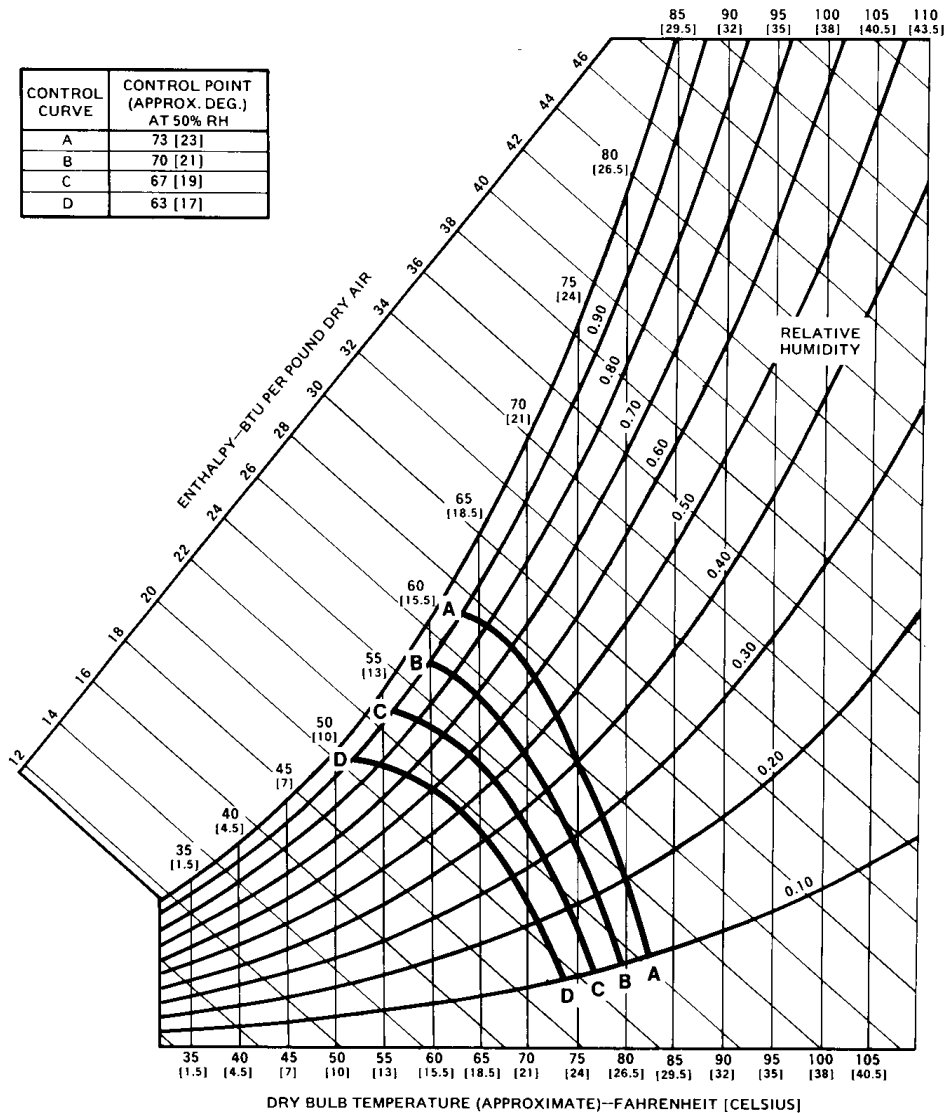

FIG. 7 - ENTHALPY SET POINT ADJUSTMENT
9. The enthalpy set point for the dampers may now be set by selecting the desired set point from graph in Figure 7. For a single enthalpy economizer, carefully turn the set point